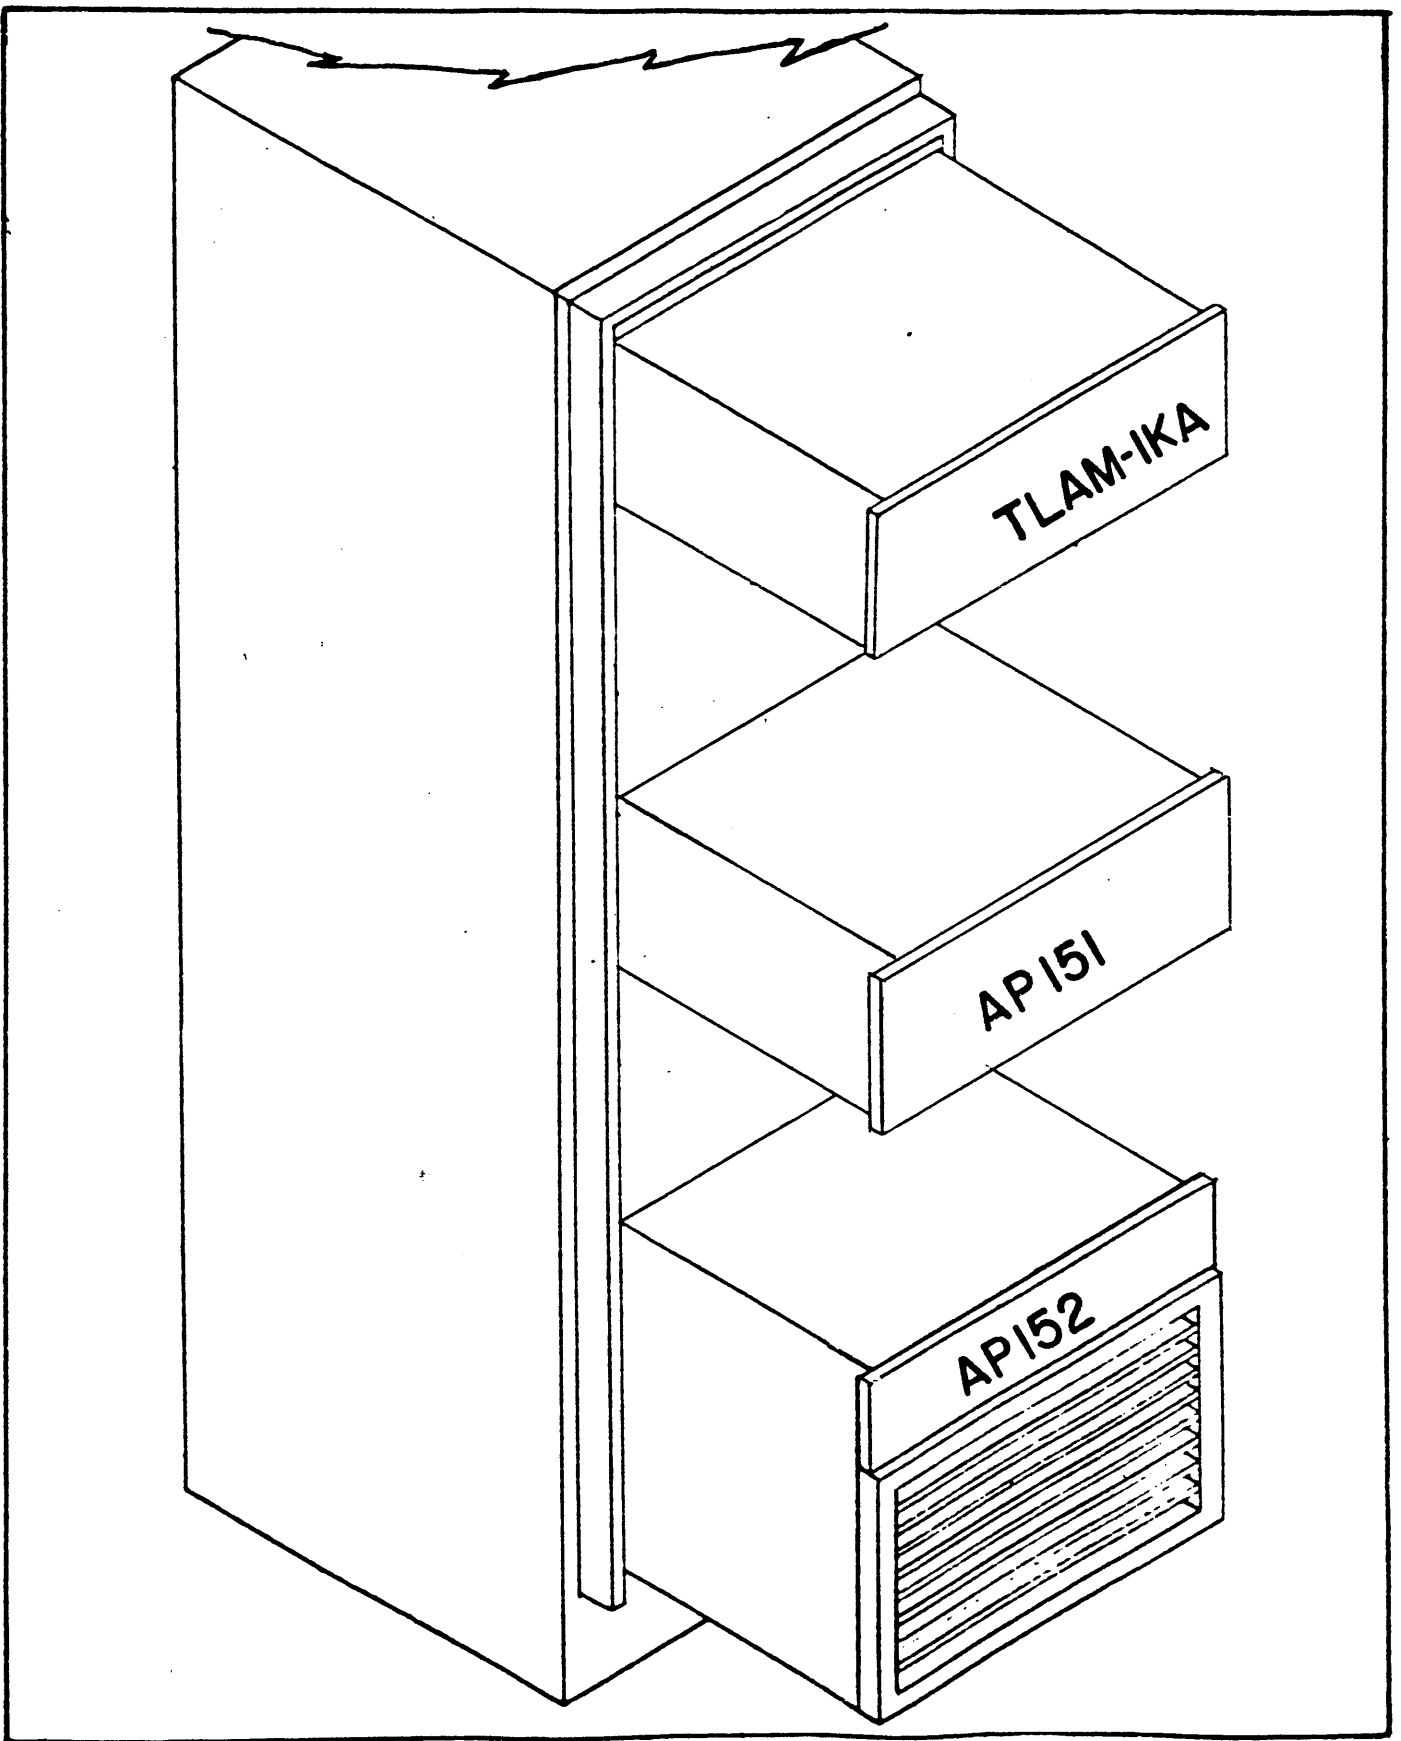

Figure 2-1. Typical HFLM-1KA Installation
- a. All units in the HFLM-1KA are slide-mounted; refer to figure 2-1 for information regarding cabinet location of modular units.